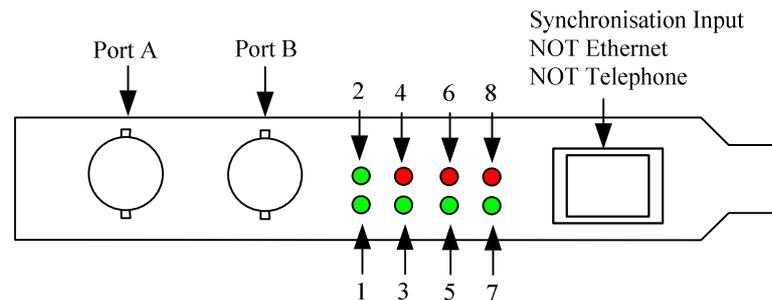

Figure 3-1. DAG 3.6D Card Status LEDs.
**Figure** Figure 3-1 shows the DAG 3.6D card status LEDs.